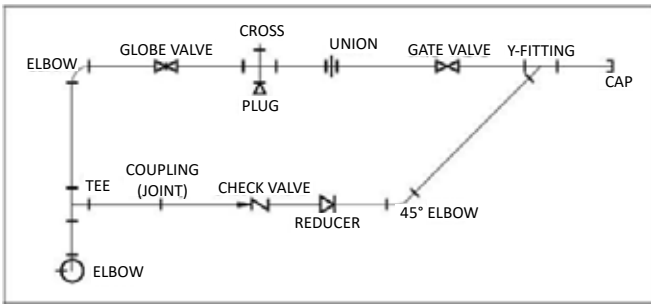

Fig. 1.2.30 Sample piping drawing with standard symbols
- a. All piping drawings indicate the direction of flow with an arrow. Sample piping drawing and sample isometric symbols are shown in Fig 1.2.30 and 1.2.31.